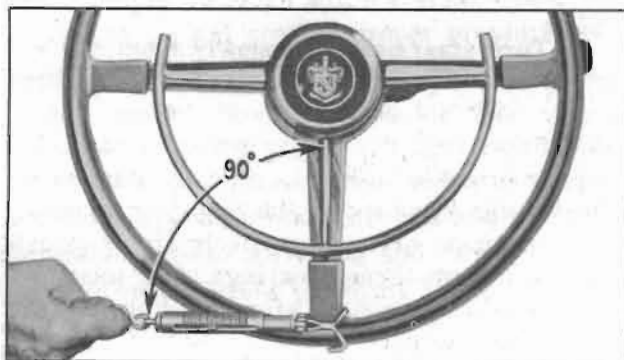

Figure 7-7—Checking Thrust Bearing or Lash Adjustment with Scale
7. After locking the bearing adjuster check the load on thrust bearings with steering wheel turned to near one extreme position. Apply Scale J 544-A to a spoke at rim of wheel and exert a steady pull while keeping the scale at 90 degrees to spoke as shown in figure 7-7. The pull required to keep wheel turning slowly should be between $\frac{7}{8}$ and $1\frac{1}{8}$ pounds. Readjust to obtain this bearing load if necessary.